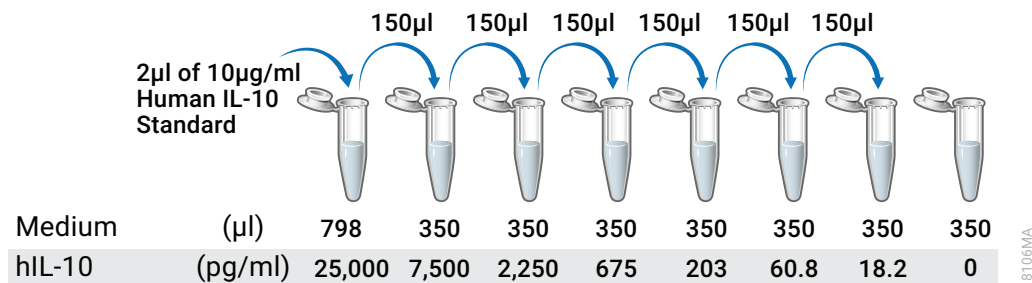

Figure 3. Human IL-10 dilution series.
3. Prepare an initial concentration of 25,000pg/ml human IL-10 by diluting Human IL-10 Standard (10µg/ml) 1:400 in prewarmed cell culture medium. For example, prepare 800µl of 25,000pg/ml human IL-10 by adding 2µl of the Human IL-10 Standard stock to 798µl of culture medium (see Figure 3).
3. Prepare an initial concentration of 25,000pg/ml human IL-10 by diluting Human IL-10 Standard (10µg/ml) 1:400 in prewarmed cell culture medium. For example, prepare 800µl of 25,000pg/ml human IL-10 by adding 2µl of the Human IL-10 Standard stock to 798µl of culture medium (Figure 3).